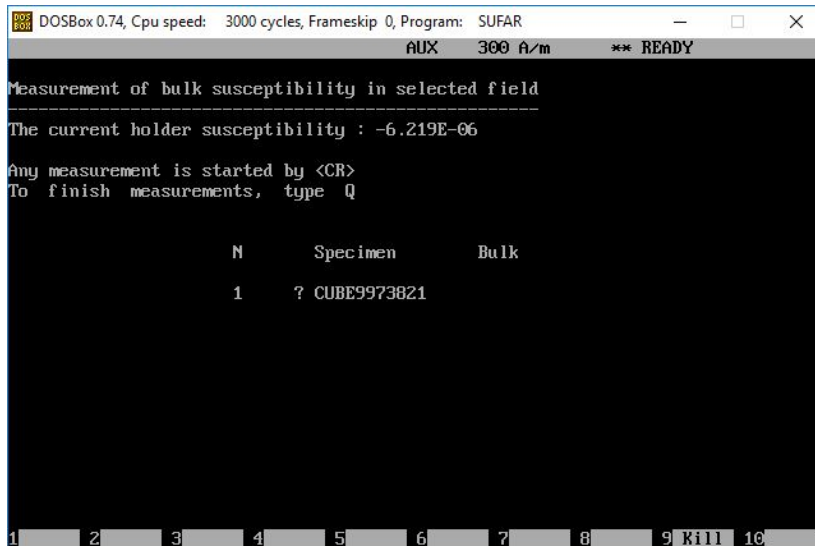

Figure 21 Bulk Susceptibility Measurement Window
6. Enter the Specimen name at the prompt (**Figure 21**).